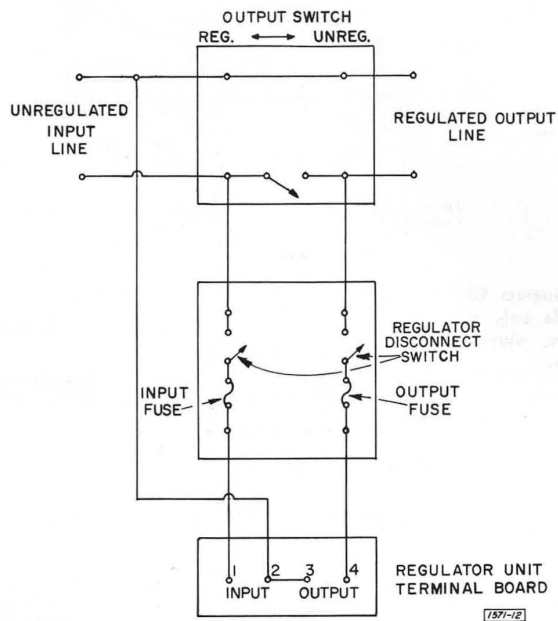

Figure 2-7. Circuit diagram for a single-phase system, one line grounded, where interruption of power is not desirable.
tine maintenance is not desirable, use of the circuit of Figure 2-7 or 2-8 makes possible the removal of the regulator without shutdown. In these circuits the output switch is normally in the regulated position and the regulator disconnect switch is on. To remove the regulator from the circuit without interrupting the flow of power, proceed as follows:
- Set the output switch (Figures 2-7 and 2-8) in the unregulated position. This transfers the flow of current from the regulator to the output switch.
- Turn on the regulator disconnect switch (Figures 2-7 and 2-8).